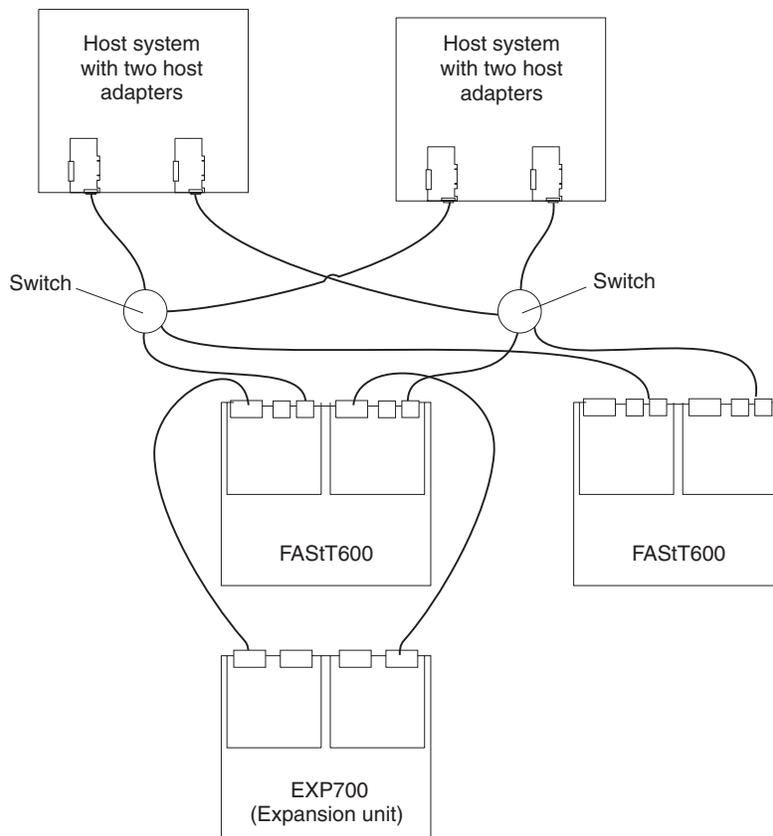

Figure 21. Dual SAN fabric zone configuration
- Dual SAN fabric zone configuration, with an additional FAStT600 storage server and an EXP attached, as showing in Figure 21 on page 24